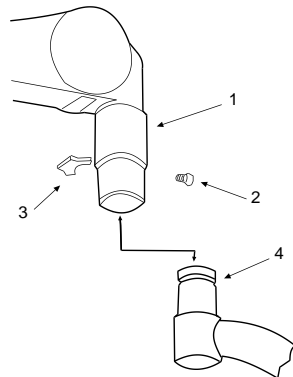

fig.4 Assembly of head of the lamp to spring arm
Assembly the head of the lamp to spring arm (fig.4).
- Assembly the head of the lamp to spring arm (fig. 4).
Assembly the head of the lamp to spring arm (fig. 4),